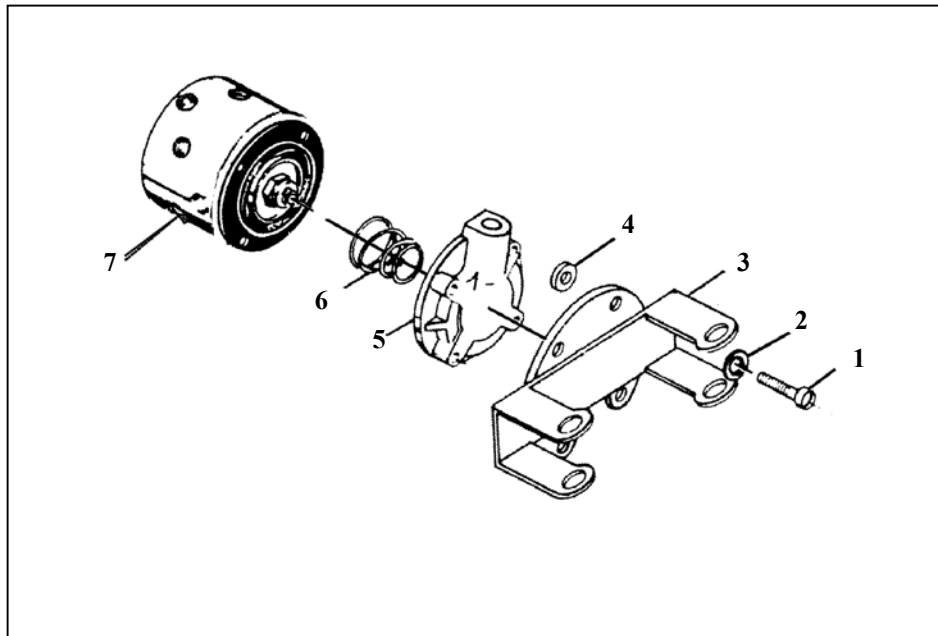

FIGURE 1
- Refer to Figure 1, page 3, for expanded view of the manifold valve assembly.